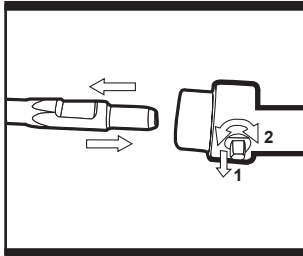

Fig. 2
2. FITTING THE CHISEL (Fig. 2)
3. REMOVE CHISEL (Fig. 2)